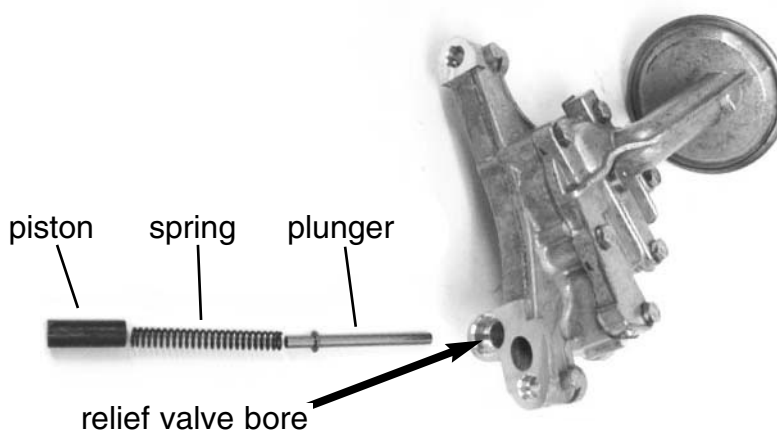

Figure 1
2. See Figure 1 for the proper layout of the piston, spring and plunger. The parts are assembled in this order, into the TOP of the pressure relief valve bore in the oil pump body. The spring goes into the hollow end of the piston. The long end of the plunger should be sticking out of the bottom washer (which is secured by a snap ring) at the bottom of the relief valve bore